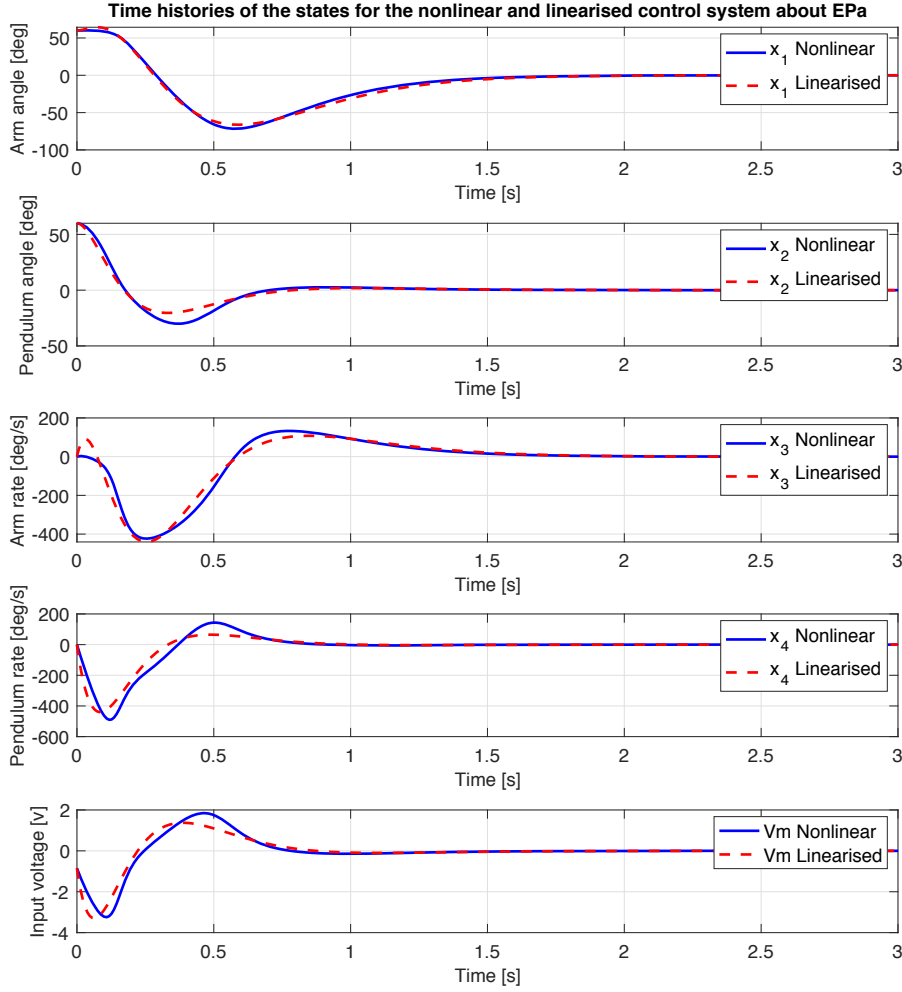

Figure 2: Time histories of the states and input voltage.
5. Plots the time histories of the states from both the nonlinear and linearised control system against each other. Plot the states $x_1(t)$ and its linear approximation $x_{1a}(t) + \bar{x}_{1a}$ on top of each other in one graph, then plot $x_2(t)$ and $x_{2a}(t) + \bar{x}_{2a}$ together on another graph, and so on. Sample results for the initial conditions $x_1(0) = 60$ deg, $x_2(0) = 60$ deg, $x_3(0) = 0$ deg/s and $x_4(0) = 0$ deg/s are shown in Figure 2, where we selected the following eigenvalues $\{-5, -6, -7, -8\}$.